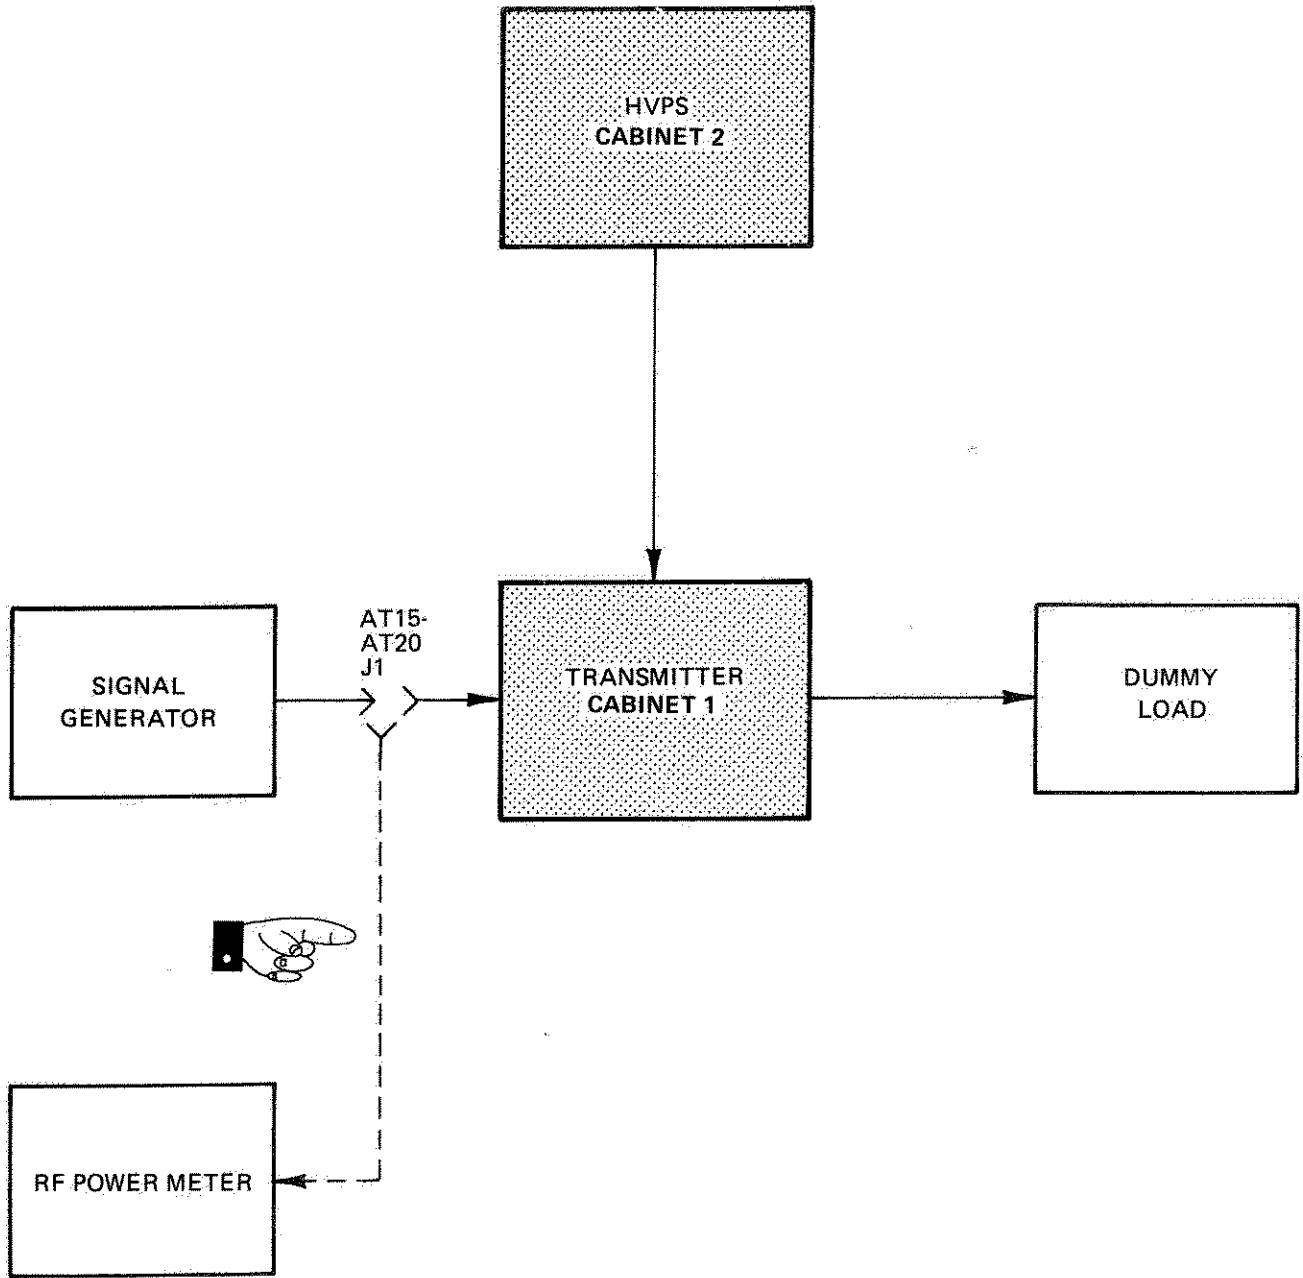

Figure 6-160. Reverse Power Trip Equipment Setup
6. Use the following list to perform the next steps. At top of card cage, left side near front, locate attenuators 1A1AT15 through AT20. Disconnect cable from attenuator for band under test. Set up Reverse Power Trip Equipment test per Figure 6-160. Route cable through opening to left side of card cage to attenuators and RF power meter.